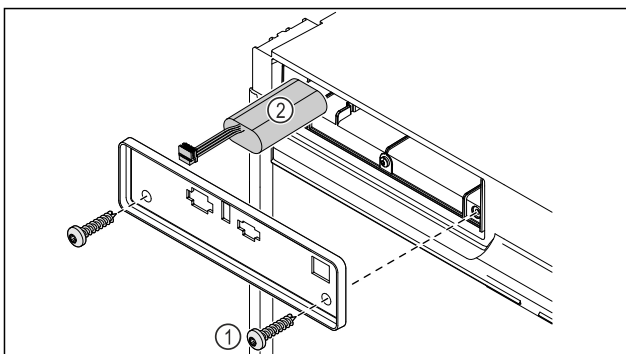

Fig. 184
- ▶ Unscrew the screws and remove the cover on the back of the appliance *Fig. 184 (1)*.
- ▶ Disconnect and remove the battery *Fig. 184 (2)*.